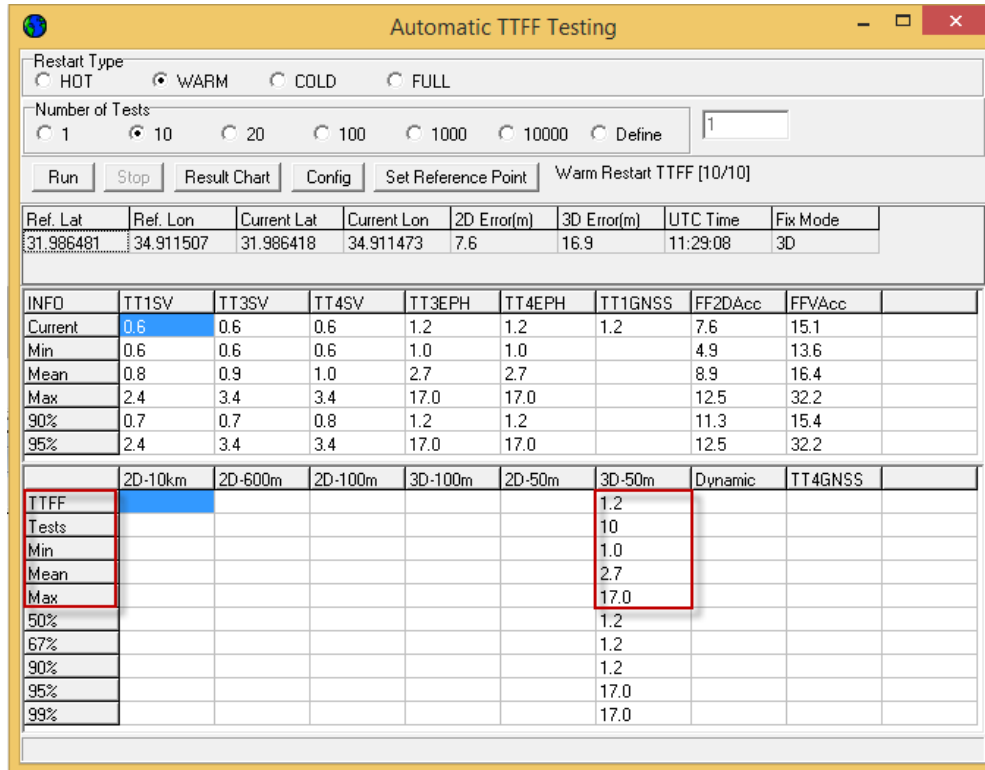

Figure 11 – Test Results window
e. Press “Run” to start the test (figure 11).
When the test is finished you will receive the following Test Results screen (figure 11 and 12):